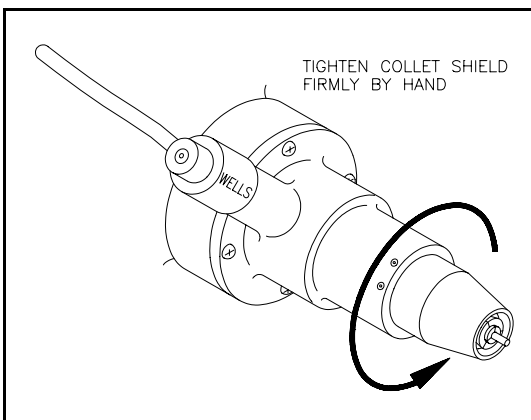

Figure 4
- 2.3 Screw the collet shield onto the threads rotating **COUNTERCLOCKWISE**. See Figure 4. Tighten firmly by hand.
- 3.3 Screw the collet shield onto the threads by rotating **COUNTERCLOCKWISE**. See Figure 4. Tighten firmly by hand.